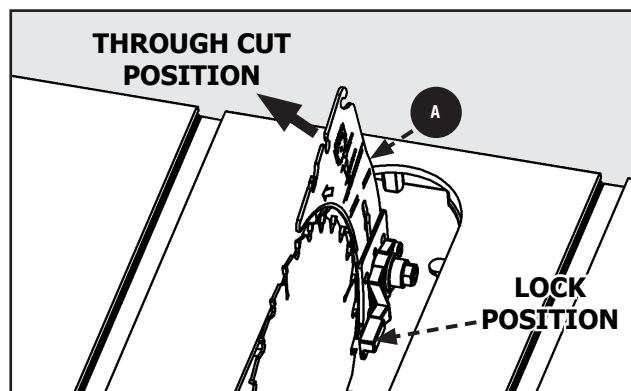

Figure 17
8. Return Blade Wrenches **PC16** and **PC17** to On-Board Storage location and secure the M8 Wing Nut. Raise the Riving Knife to the through cut position prior to installation of Throat Plate. See Figure 17.